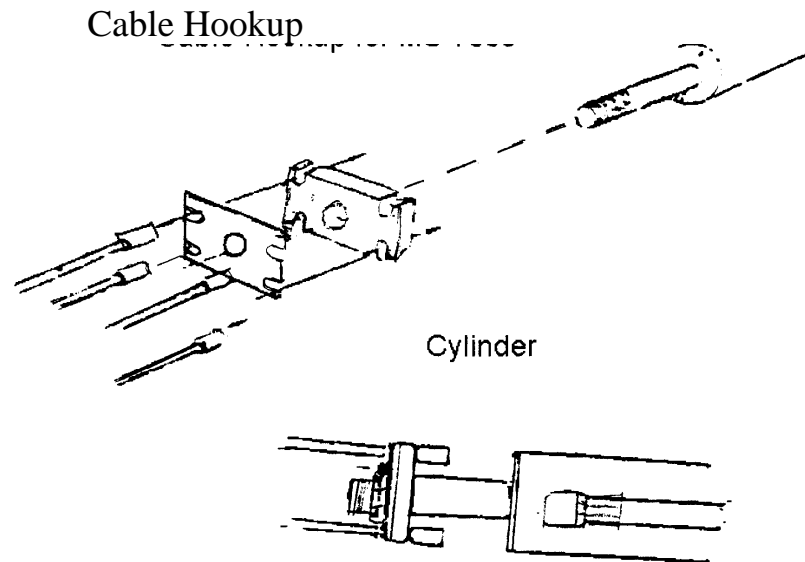

fig 3a
3. Install cable buttons into the appropriate slots in thick plate and secure with slots on thin plate. (see fig3a) Tighten enough so the nylock nut is fully threaded onto the head of the ram and that at least three threads are exposed past the top of the nut. The cable bracket should still be able to move freely on the ram head.